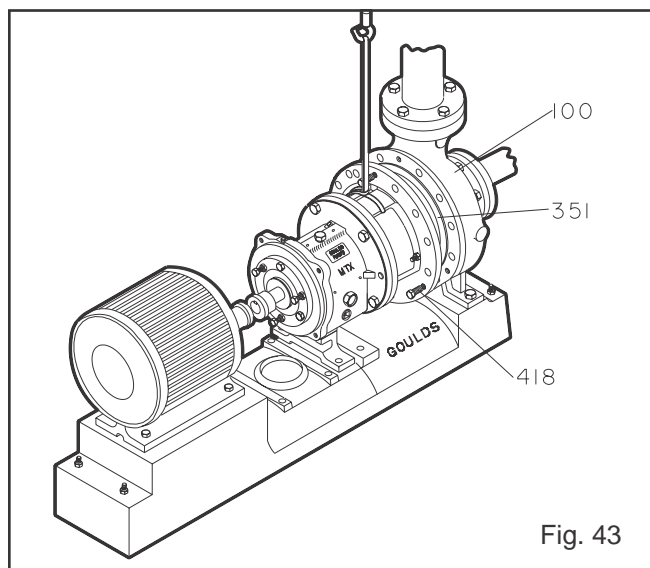

Fig. 43
11. Remove back pull-out assembly from casing (100). Tighten jack screws (418) evenly to remove back pull-out assembly (Fig. 43).